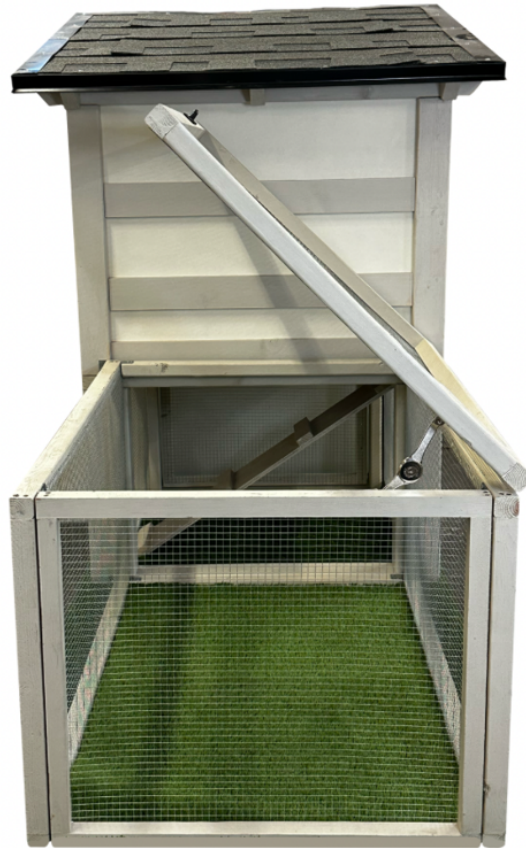

Figure 2.0
Step 13.) Next attach the open side of the run frame to the open side or back of the base enclosure using the metal “L” brackets D12-15. See Figure 2.0 (shows attachment to the back of coop)